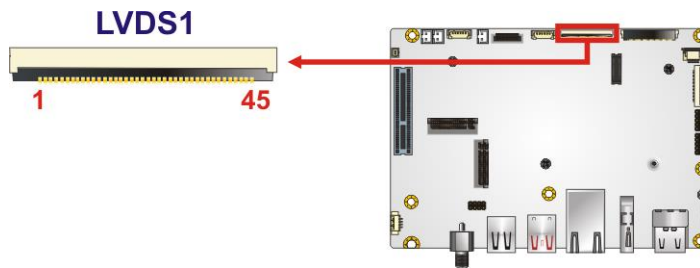

Figure 3-5: LVDS Connector Location
- CN Location:** See **Figure 3-5**